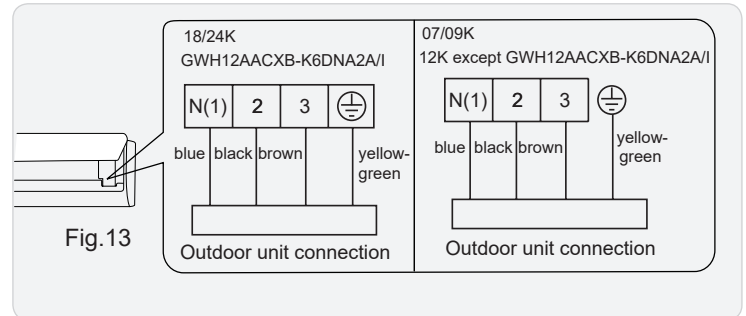

Fig.13
(3) Remove the wire clip; connect the power connection wiresignal control wire (only for cooling and heating unit) to the wiring terminal according to the color; tighten the screw and then the power connection wire with wire clip.(As show in Fig.13)